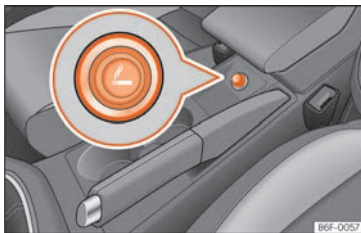

Fig. 161 Lighter.
- Press on the cigarette lighter »» **Fig. 161** to activate it »» ⚠.